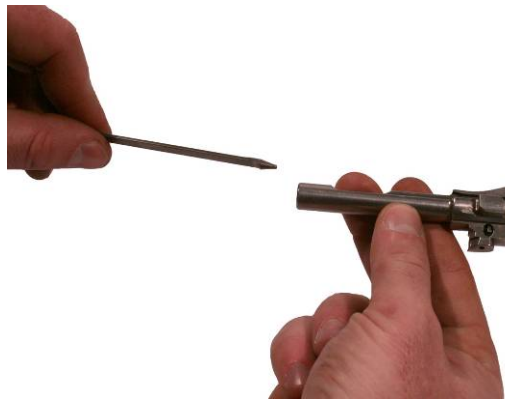

Figure 8. Installing the Firing Pin.
3. Install the firing pin into the bolt. Ensure the flat side of the firing pin is facing the small, squared locking lug. Refer to Figure 8.